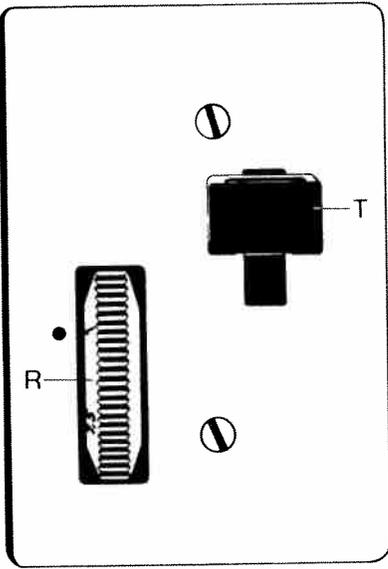

Fig. 15
Attach clear-view buttonhole foot. Mark position and length of buttonhole on material. Set stitch length control **R** (Fig. 15) between "0" and "0.5", and turn stitch width control (6) to "5". Turn utility-stitch selector dial (5) until symbol of left buttonhole seam is below dot mark.